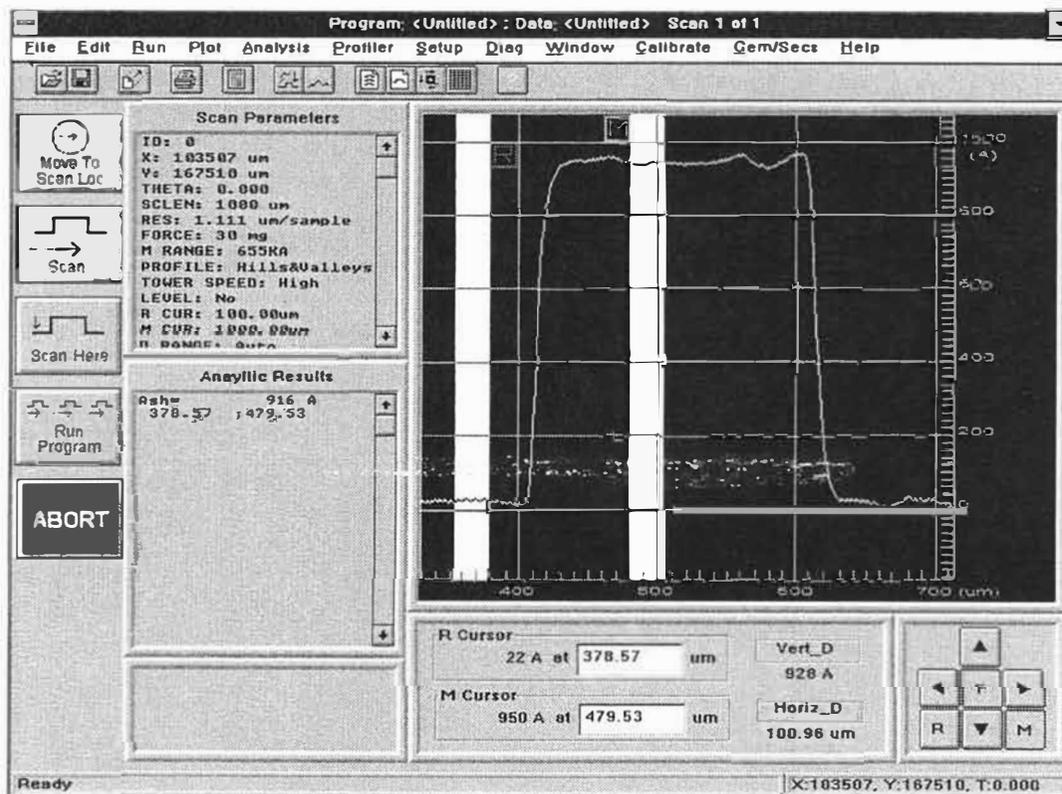

Figure 10-3. Calculating Average Step Height
2. With the reference cursor positioned along the base of the step, reposition the measurement cursor to the center of the step (see Figure 10-3).